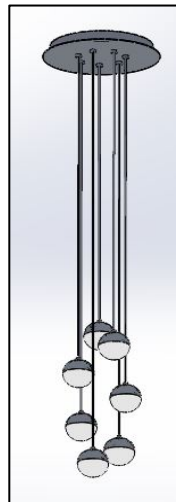
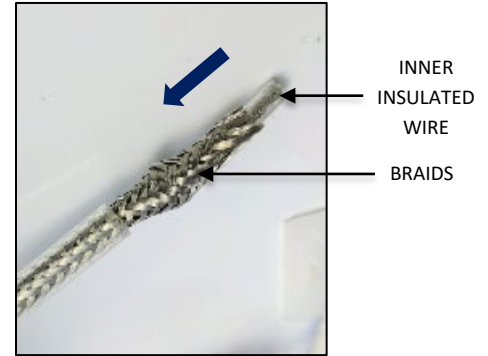

FIG. 14 - COMPLETED INSTALLATION OF GLOWBALL PENDANT CLUSTER WITH P7CA
FIG. 16
- Strip off 1.00" of outer clear insulation exposing the outer metal braiding as shown in FIG. 14 below. **Be careful not to cut or damage the outer metal braiding.** Gently push braiding down to loosen the individual braids exposing the inner insulated wire as shown in FIG. 16 below.